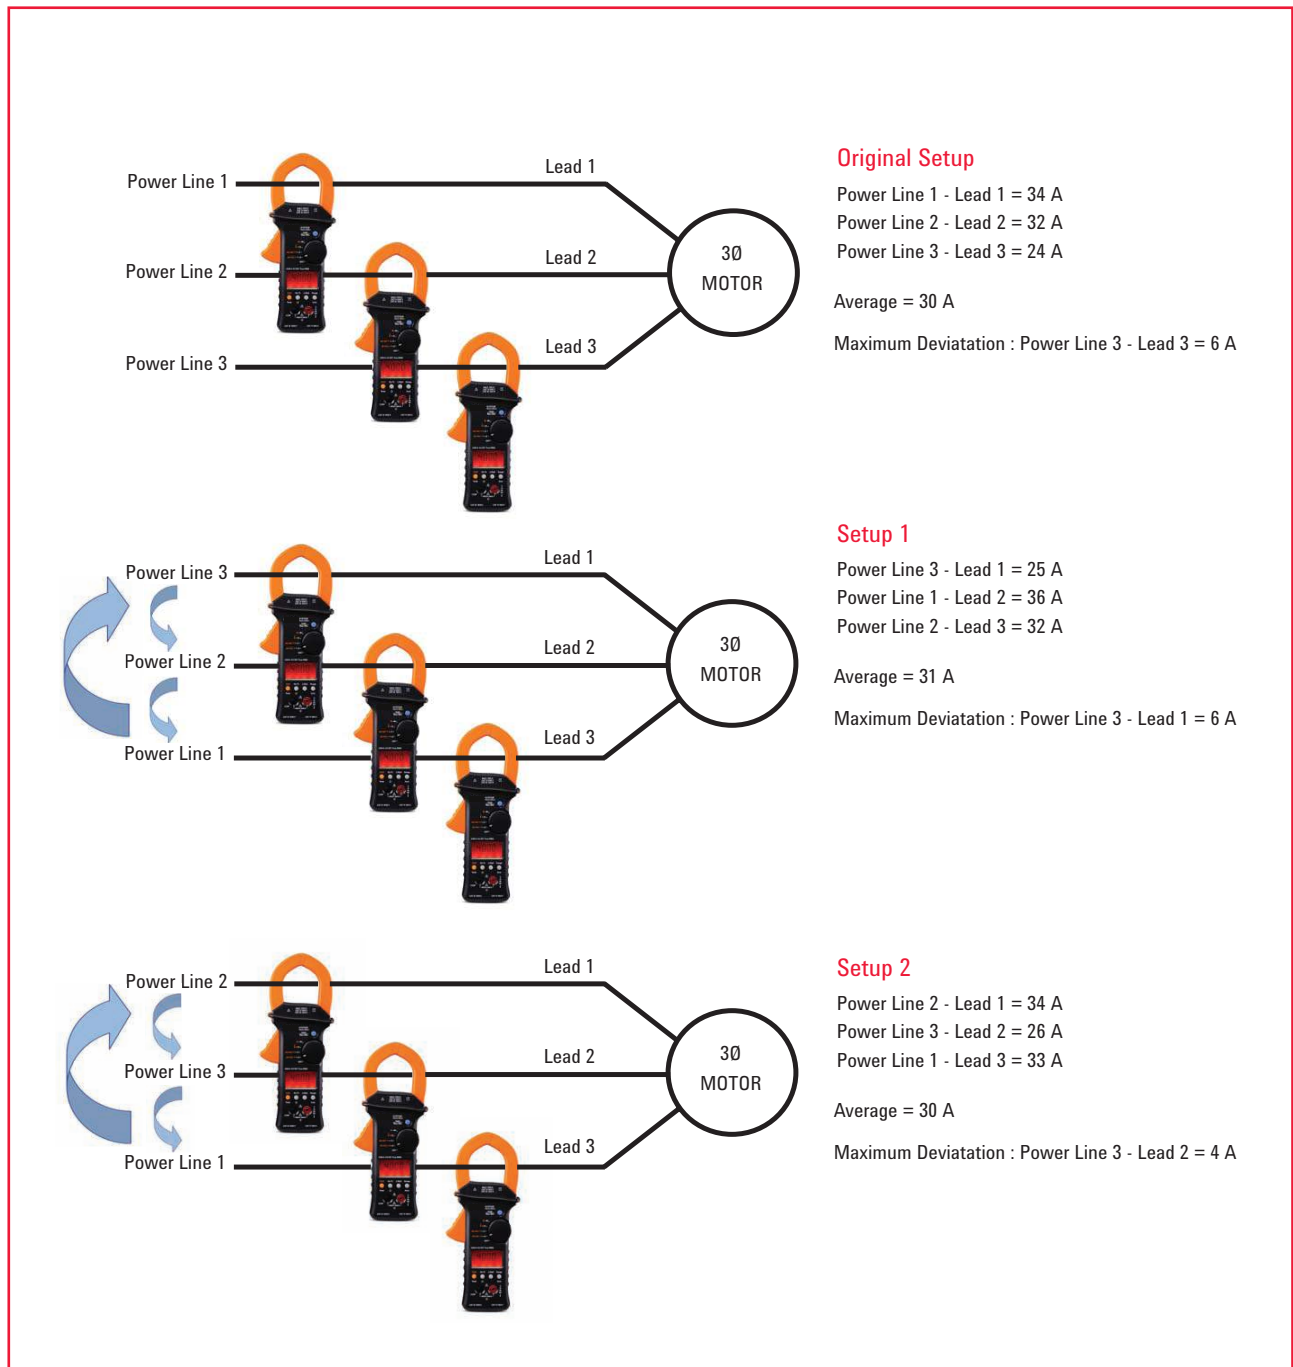

Figure 1. Steps to identify the source of unbalance
1. Record the current flowing through each motor lead as shown in Figure 1.
9. Figure 1 indicates that the incoming power is the source of unbalance because the maximum current deviation follows the input power line.